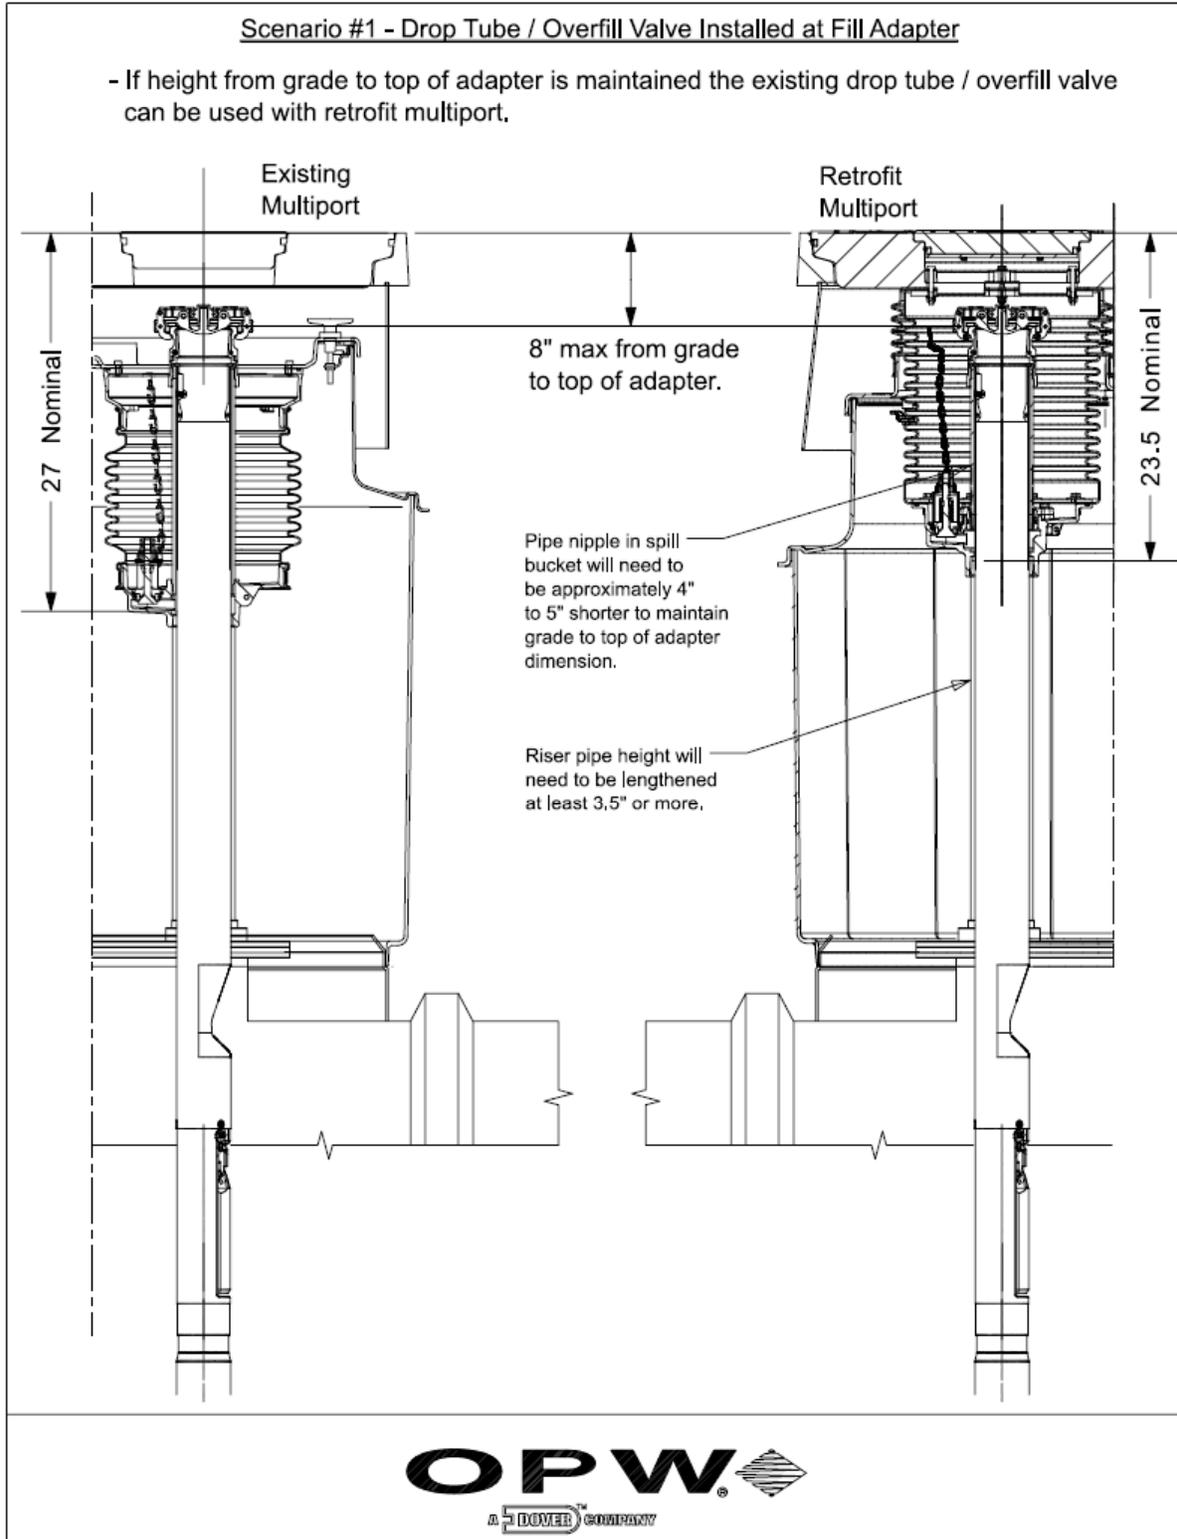

Figure 32
- 53. If desired, the existing drop tube / overflow valve can potentially be used with the retrofit installation. Determine mounting location of current drop tube / overflow valve (See Figure 32 and 33 for the two most common scenarios).
Scenario #1 (Figure 32) - If drop tube / overflow valve is mounted at the adapter (the drop tube / overflow valve can be used as is if the grade to adapter height is maintained. Measure existing grade to adapter height and maintain with new configuration. Confirm dimensions meet requirements in the drop tube / overflow valve instructions when reinstalling.